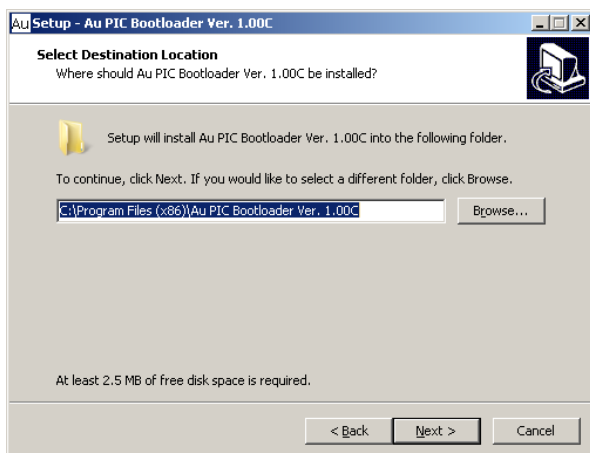

Figure C-4
4. “Select Destination” window shows up, use default path: C:\Program Files\ AU PIC Boot-loader”, then click “next” to continue (Figure C-4).